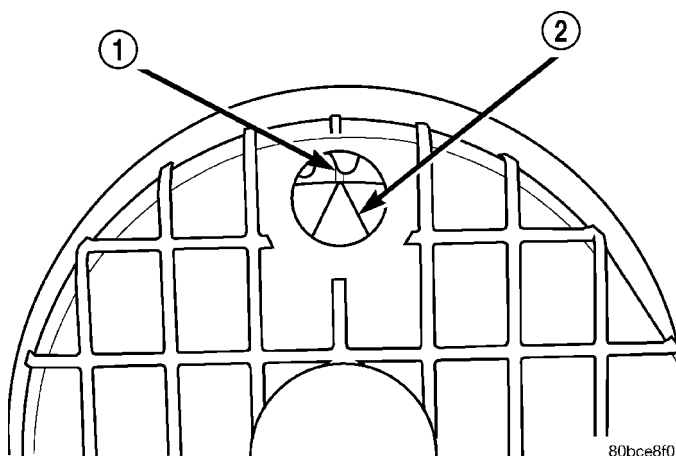

Fig. 150 Camshaft Timing Marks
- (4) Check the timing mark on the camshaft sprocket. Mark should align with the arrow on the timing belt rear cover (Fig. 150).